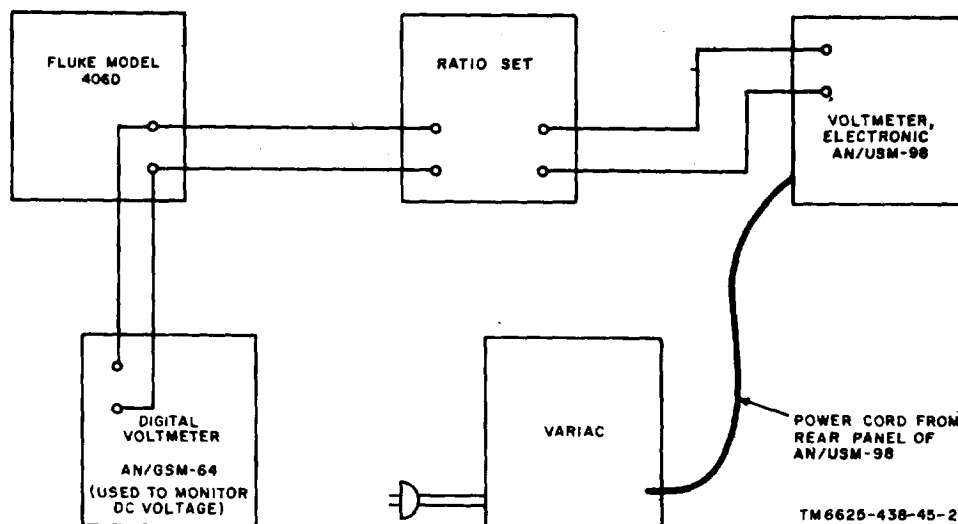

Figure 6-1. Voltmeter, Electronic AN/USM-98, alignment test setup.
- (1) Connect the equipment as shown in figure 6-1.
- (2) Adjust the power supply for an output of 500 volts as monitored with the digital voltmeter.
- (3) Adjust the ratio set for an output of 500 volts.
- (4) Turn the NULL switch on the vtvm under test to 10.
- (5) Vary the ADJ CAL control for a zero indication on VOLTS meter M1. Turn the NULL switch to 1, .1, and .01 to verify that the ADJ CAL control is adjusted for a true null. The ADJ CAL control should be at approximately midrange when the null is attained. Potentiometer P6 may be adjusted to vary the position of the ADJ CAL control at null.
- (6) If potentiometer P6 requires adjustment, verify that the ADJ CAL control is adjusted for a null with the vtvm in its case and the NULL switch is set to .01 ((5) above). Do not further adjust the ADJ CAL control.
- (7) Turn off the power supply, and disconnect the ratio set from the vtvm under test.
- (8) With the vtvm under test in its case, observe VOLTS meter M1 and depress the CAL PUSH switch. There should be no meter M1 indicator deflection. If necessary, adjust potentiometer P2 until no deflection of the indicator on VOLTS meter M1 is observed.
- (9) Verify that no deflection of the indicator on VOLTS meter M1 is observed when the vtvm is in its case, and the CAL PUSH switch is depressed.